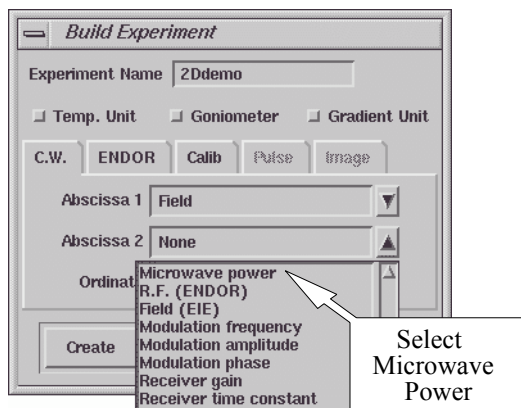

Figure 5-45 Defining a 2D experiment.
3. **Define a 2D experiment.** Name the 2D experiment. Select **Field** as **Abcissa 1** and **Microwave power** as **Abcissa 2** in the drop-down list. (See Figure 5-45.) Click **OK** to close the dialog box.